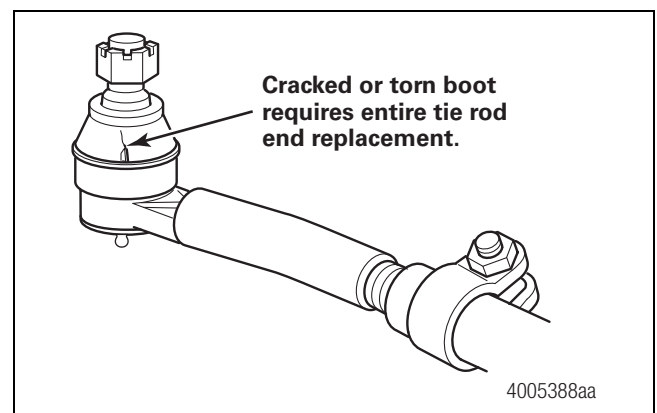

Figure 4.9
4. Check the tie rod boot for cracks, tears or other damage. Also check the boot seals for damage. Replace the entire tie rod end if the boot is damaged or missing. Figure 4.9.